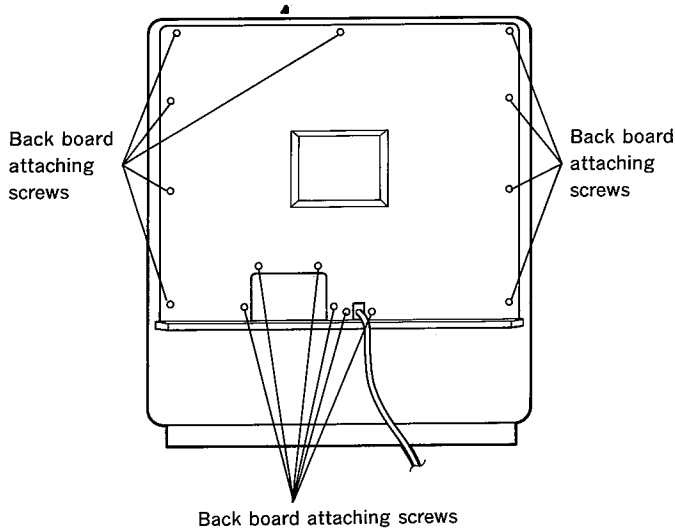

Fig. 2-1
1. Remove the 15 screws retaining the BACK BOARD, as shown in Fig. 2-1.